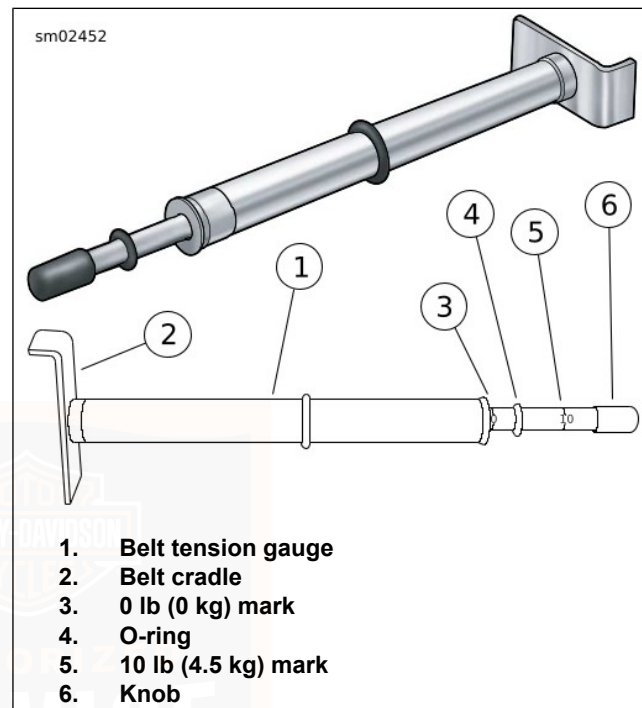

Figure 77. Belt Tension Gauge
3. See Figure 77. Measure belt deflection using: